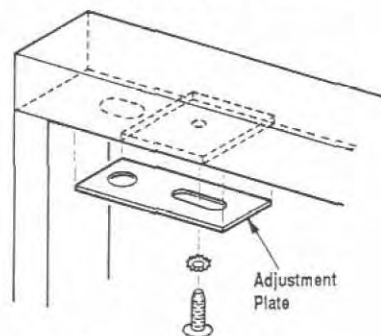

Figure 50
Step 5. Attach the two (2) adjustment plates from the hardware kit to the upper trim bar with two (2) self tapping No. 8 flat-top washer head screws and lockwashers from the hardware kit (Figure 50). Center screws over slot in adjustment plate and tighten screws over plates on both sides.